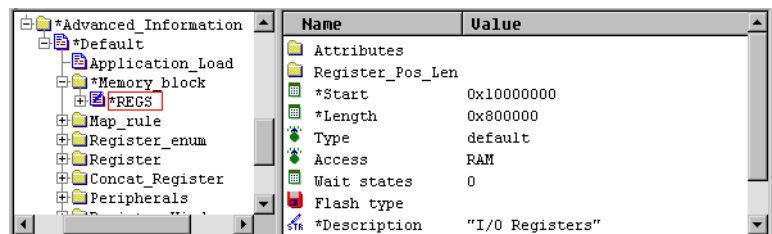

Figure 3-26 Configuring REGS
7. Set the value of Length to 0x800000 (Figure 3-26).